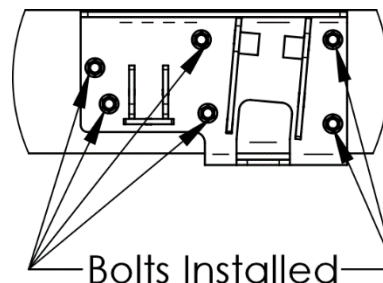

Figure 11. Driver Side (LH) Upper Strut Mount Installation.
- Loosely attach the Left Hand Upper Strut Mount and Left Hand Cross-member Mount to the frame located just behind and above the rear axle using (6) 5/8\"-11 x 2\" Hex Flange Bolts and (6) 5/8\"-11 Locking Flange Nuts. Refer to **Figure 11**.